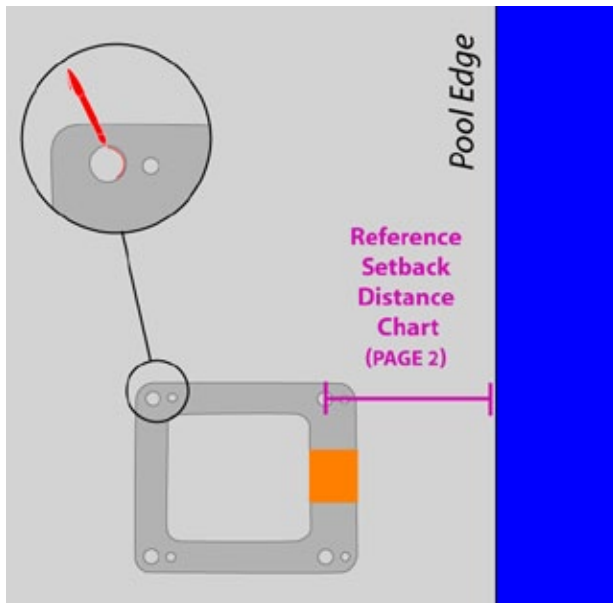

FIGURE 2
1. Mark the 4 hole locations on your deck using the larger holes of the anchor jig plate as a template. **Make sure the center of the holes on the anchor jig plate are aligned according to your lifts setback distance. SEE FIGURE 2 & PAGE 2**